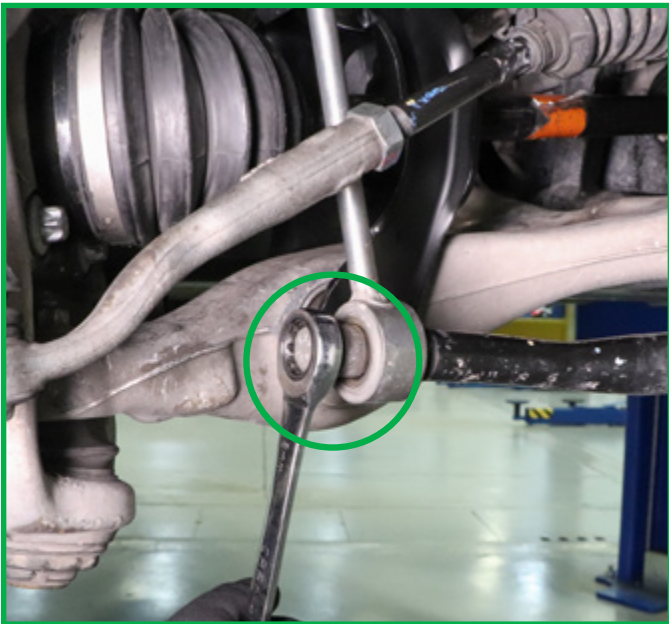

FIGURE 7
8. Disconnect sway bar linkage and remove. (Figures 7, 8)